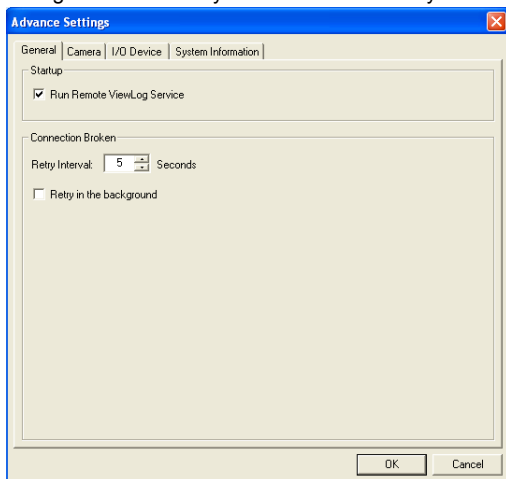

Figure 3-5
- **GV-System:** Enable the **Run Remote ViewLog Service** option in Figure 3-5, and start recording.